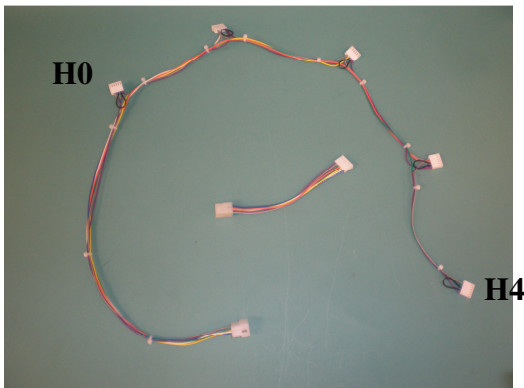
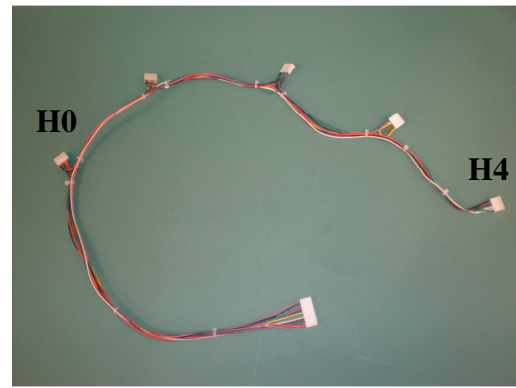

Figure 9
Figure 10
8) Attach the correct harness to the motors. Figure 9 belongs to the National 157/167 and Figure 10 belongs to the National 147. H0 is the first selection of the new gum and mint tray. The small jumper harness may be needed on some later model National 157/167.